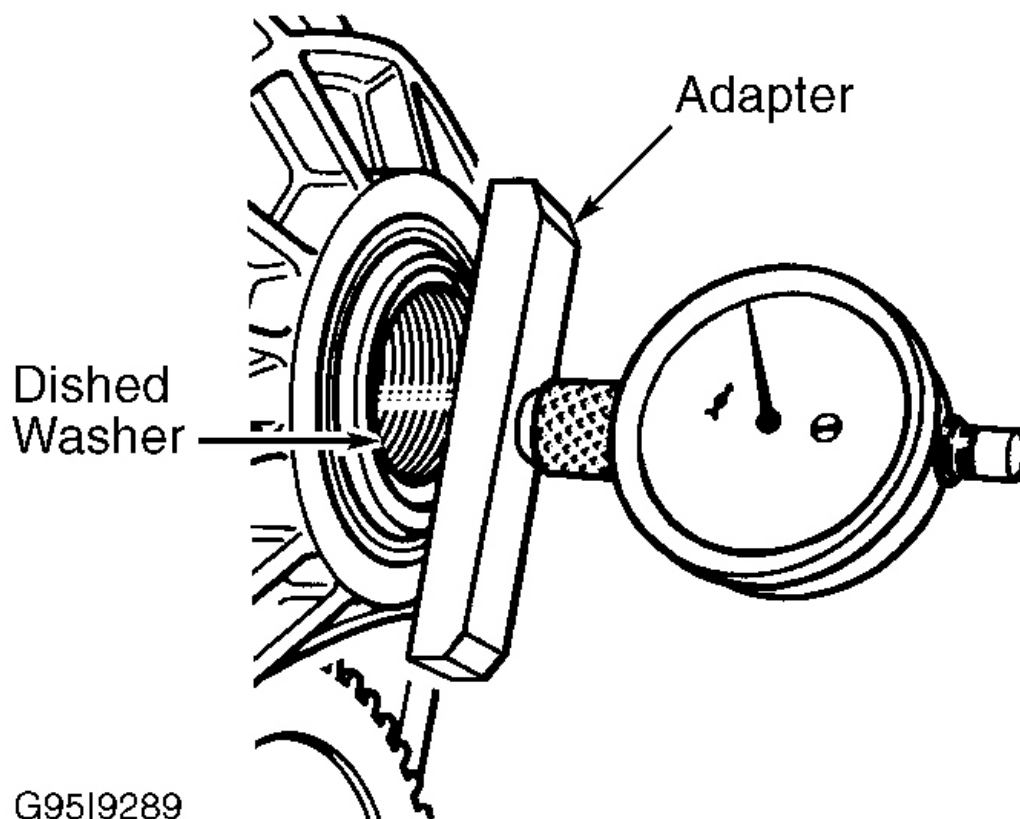

Fig. 57: Checking Distance Between Input Transfer Gear & Inner Race Of Roller Bearings
4. Remove fastener nut. Using a dial indicator, measure distance between input transfer gear and inner race of roller bearing. See **Fig. 57** . Measure thickness of dished washer.